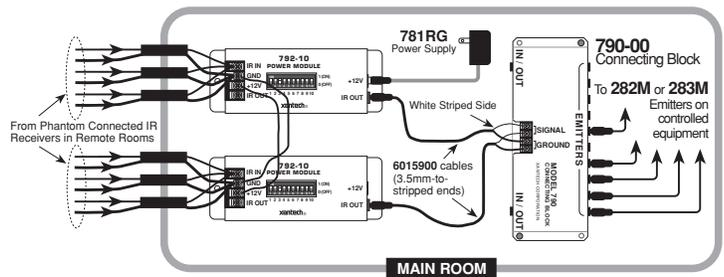

Fig.4 Using Additional 792-10's
- If you have more than three IR receivers, connect additional 792-10's as shown in Fig. 4